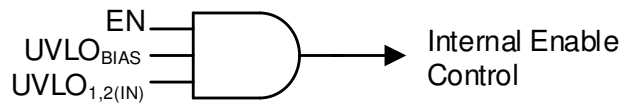

图 6-3. Simplified Turn-On Control
Controlling when a single power supply turns on can be difficult in a power distribution network (PDN), because of the high power levels inherent in a PDN and the variations between the supplies. As shown in 图 6-3 and 表 6-2, the LDO turn-on and turn-off time is set by the enable circuit (EN) and undervoltage lockout circuits ( $UVLO_{1,2(IN)}$  and  $UVLO_{BIAS}$ ).